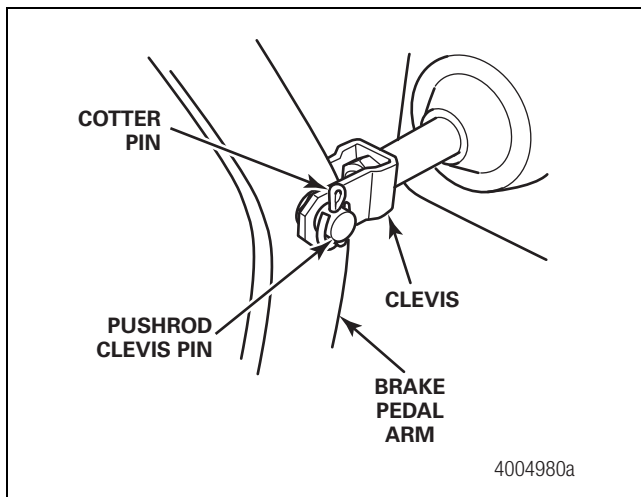

Figure 8
- Connect the master cylinder pushrod clevis pin to the pedal assembly. The clevis pin must be installed into the same hole on the brake pedal as it was before the old master cylinder was removed. Secure the cotter pin. Figure 8.